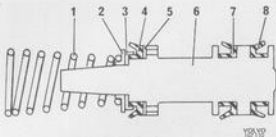
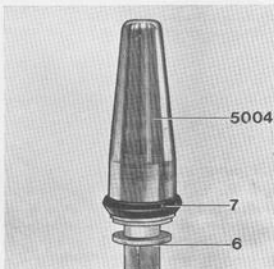

Fig. 5-46. Secondary piston
Fig. 5-47. Fitting piston seal
1. Fit the parts on the secondary piston, see Figs. 5-46 and 5-47. Make sure that the piston seals are turned correctly. When fitting seals 7 and 8, use tool 5004. Apply brake fluid to the sleeve and seal and press the seal onto the sleeve. Then place the tool on the piston, see Fig. 5-47, and push on the seal. With the tool adjusting screw, adjust to a suitable position when fitting inner and outer seals.